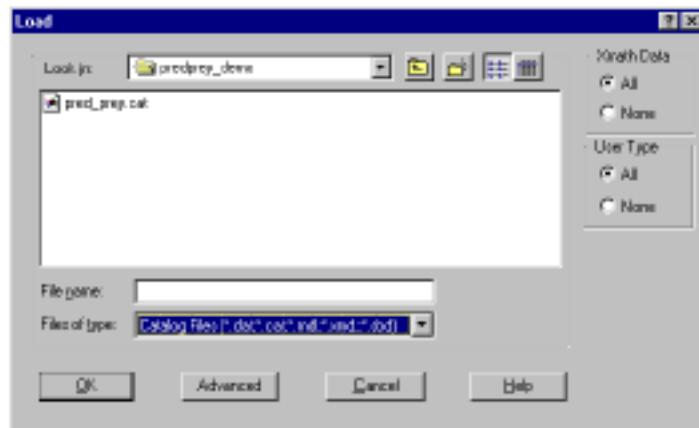

Figure 4-9. Catalog Browser's Load Dialog
2. From the Load dialog (shown in Figure 4-9), load the following file: